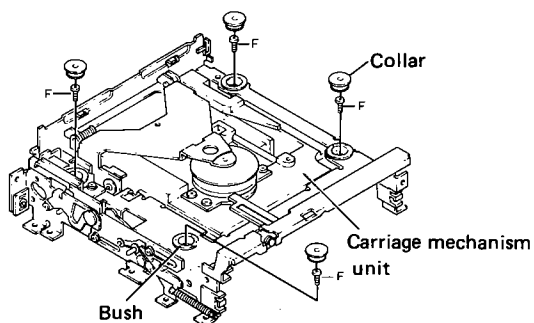

Fig. 22
• **Vibration Proof Rubber (Bush) Removal (Fig. 22)**